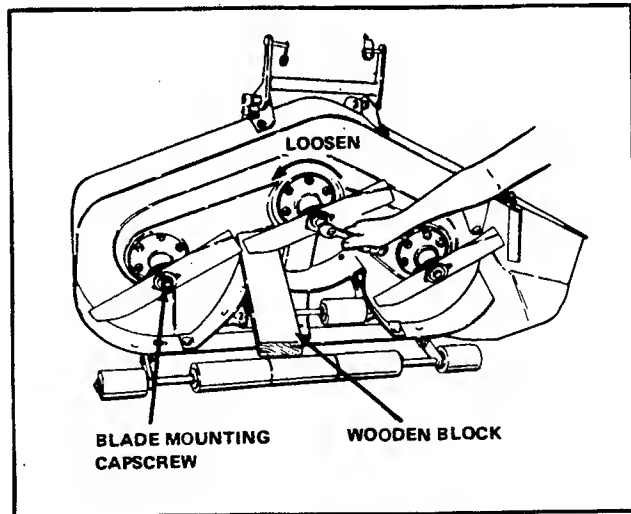

FIGURE 13 - Loosen Blade
3. To remove blade for sharpening, use wooden block to hold blade while removing its blade mounting capscREW (Figure 13).